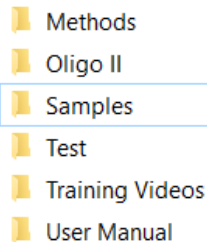

Figure 55 Samples folder
- 1 Place the sample name files into the C:/Agilent/Samples folder. If a folder does not exist, create a new *Samples* folder (**Figure 55**). The sample name file can be either a .txt file or .csv file (using the formats described in section “**Importing Sample Names**” on page 85). The sample name files are created by the user, or automatically by a LIMS system.